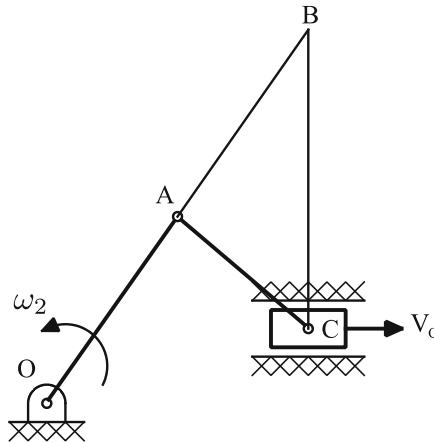

Fig. 2.51 A slider-crank mechanism
15. In the OAC slider-crank mechanism (Fig. 2.51), which answer is correct for the slider's velocity?